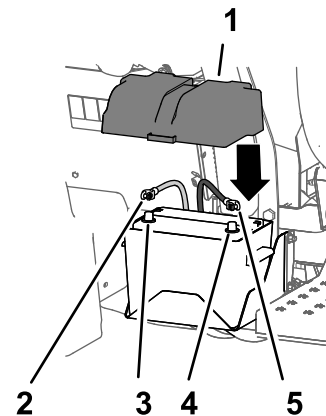

Figure 38
1. Connect the positive battery cable to the positive post of the battery (Figure 38).
2. Connect the negative battery cable to the negative post of the battery (Figure 38).
3. Align the battery cover to the battery box and secure the cover with the strap (Figure 38).